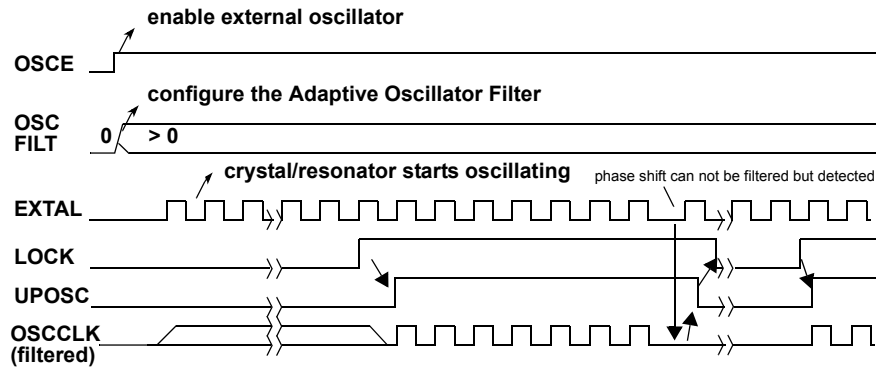

Figure 94. Critical Noise Detected by the Adaptive Oscillator Filter
2. Detect severe noise disturbance on external oscillator clock which can not be filtered and indicate the critical situation to the software by clearing the UPOSC and LOCK status bit and setting the OSCIF and LOCKIF flag. An example for the detection of critical noise is illustrated in Figure 94